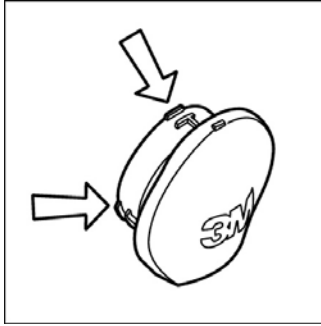

Fig. 2
1. Align tabs on center adapter base with notches in center port of facepiece lens. (Fig. 2)